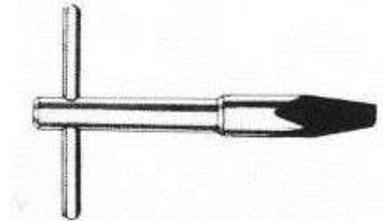

Figure 41
- (1) Disable all power to the engine to prevent propeller rotation and engine start. Disconnect ignition leads from all spark plugs.
- (2) If not already done, remove the Heli-Coil® insert from the spark plug hole as follows:
- (a) Insert the T-shaped Removing Tool P/N 64595 (Figure 41) in the spark plug hole. Press the tool down firmly for the edge of the tool to cut into the top thread of the insert.